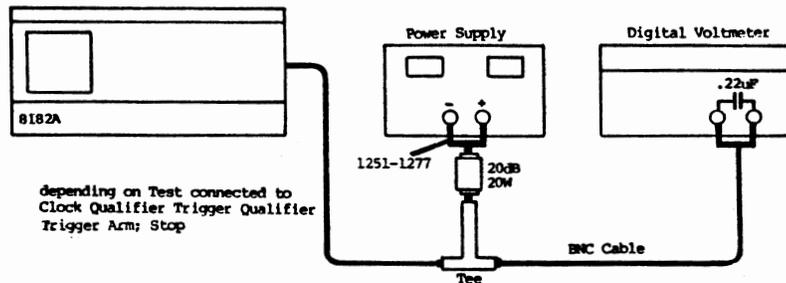

Figure 4-9 Threshold Test Setup
5. Connect equipment as shown in figure 4-9 and press RUN.
**3. AUTOARMING 0s (PAGES > Control > Autoarming > Delay 0s)****4. TRIGGER QUALIFIER HIGH LEVEL; THRESHOLD +1.4V (PAGES > Control > Trigger > Trg Qualifier > Level > High Level > Exit > Threshold)****5. Connect equipment as shown in figure 4-9 and press RUN**
6. Connect equipment as shown in figure 4-9 and press RUN.
**6. Connect equipment as shown in figure 4-9 and press RUN.****7. Increase power supply voltage slowly until the 8182A switches from ACTIVE to IDLE (upper right corner of display).**